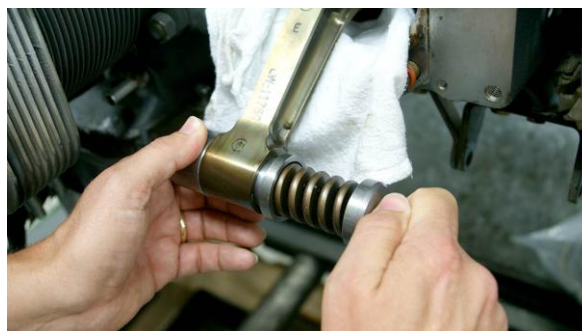

Figure 6
5. Hold the bottom section of the ST-531 and turn the bolt head until finger-tight (Figure 6).